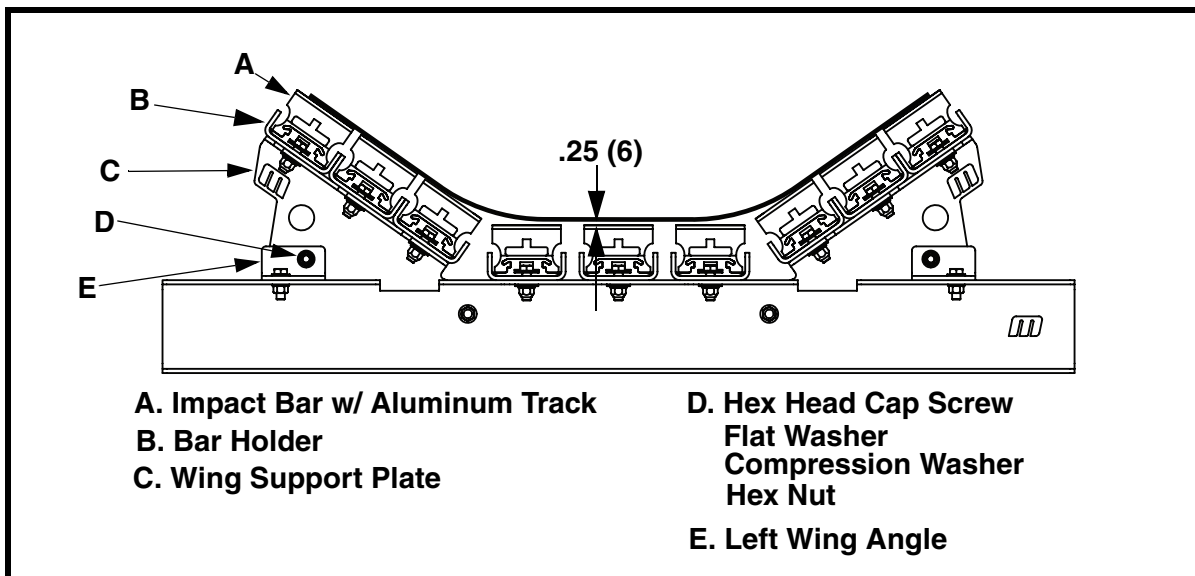

Figure 2. Installing Martin® Impact Cradles
3. Make sure distance from top of center bar to bottom surface of belt measures 1/4 in. (6mm) (see Figure 2). If distance is greater than this, add shims under base weldment to raise impact cradle to height of adjacent idlers. (Shim Kit, P/N 34163 is available from Martin Engineering.) If distance is less than this, contact Martin Engineering or a representative.
- a. If bolting, drill or cut 9/16-in. holes in stringers through mounting holes in feet of base weldment cross-supports. Install hex head cap screw, flat washer, compression washer, and hex nut (Figure 2) in each hole to secure base weldment to stringers.